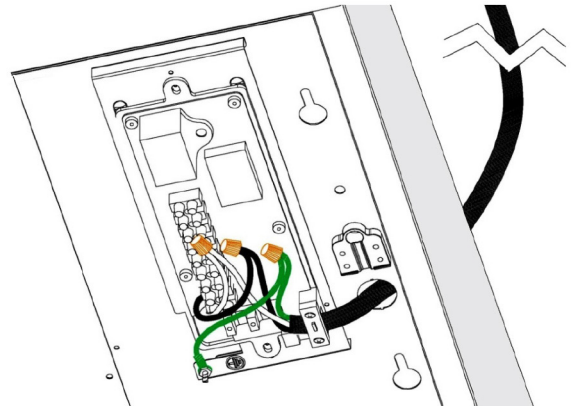

Figure 2
- Loosen 2 screws of electronic box, connect cable to range hood wiring using included wire connectors. Connect **BLACK** to **BLACK**, **WHITE** to **WHITE** and **GREEN** or **BARE WIRE** to **GREEN** ground screw. **DO NOT FORGET TO CONNECT THE GROUND** (Figure 2).